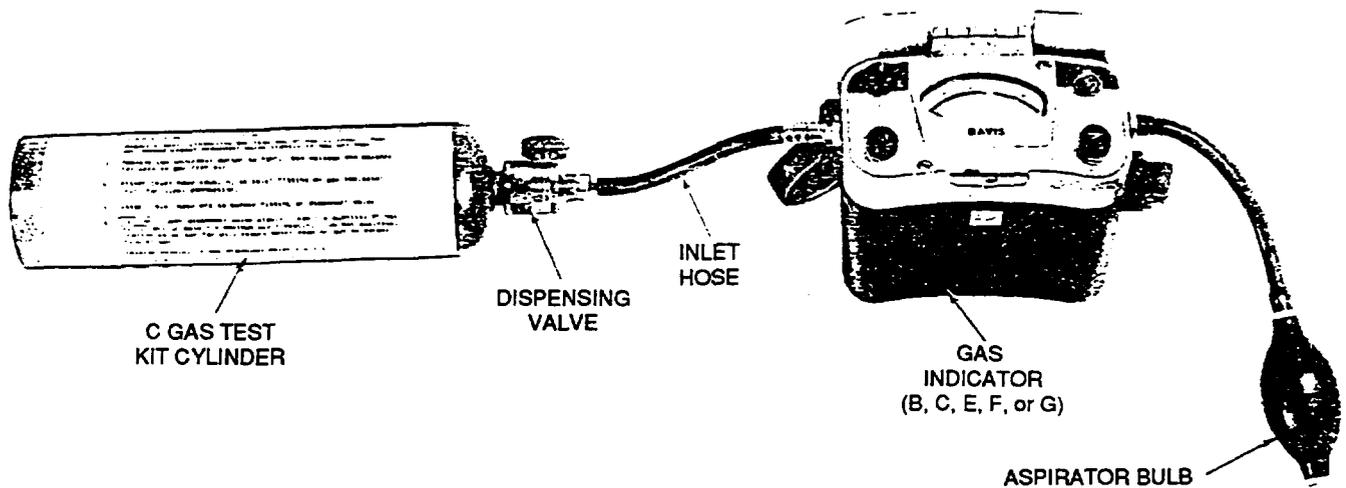

Fig. 2-C Gas Test Kit Ready for Use
- (1) Turn on the gas indicator, set the voltage, and/or balance for zero in gas free air as covered in the appropriate Section (paragraph 1.04).
- (2) Attach the gas indicator to inlet hose with the appropriate coupling for the type of gas indicator being used. The hoses are identified by the gas indicator letter code stamped on the hose coupling, such as B, C, etc.
- (3) Check the hose for a tight connection.
- (4) Slide the free end of the hose over the dispenser valve barbed fitting. The indicator is now ready for testing as shown in Fig. 2.